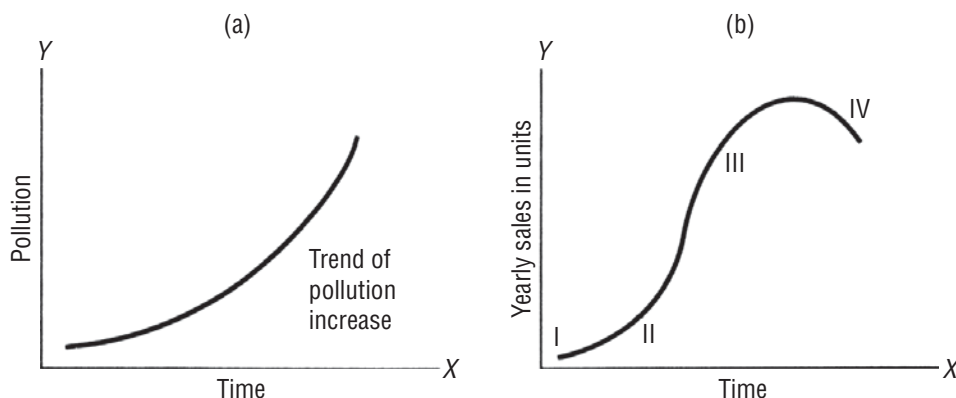

FIGURE 15-2 CURVILINEAR TREND RELATIONSHIPS
Trends can be linear or curvilinear. Before we examine the linear, or straight-line, method of describing trends, we should remember that some relationships do not take that form. The increase of pollutants in the environment follows an upward sloping curve similar to that in Figure 15-2(a). Another common example of a curvilinear relationship is the life cycle of a new business product, illustrated in Figure 15-2(b). When a new product is introduced, its sales volume is low (I). As the product gains recognition and success, unit sales grow at an increasingly rapid rate (II). After the product is firmly established, its unit sales grow at a stable rate (III). Finally, as the product reaches the end of its life cycle, unit sales begin to decrease (IV).